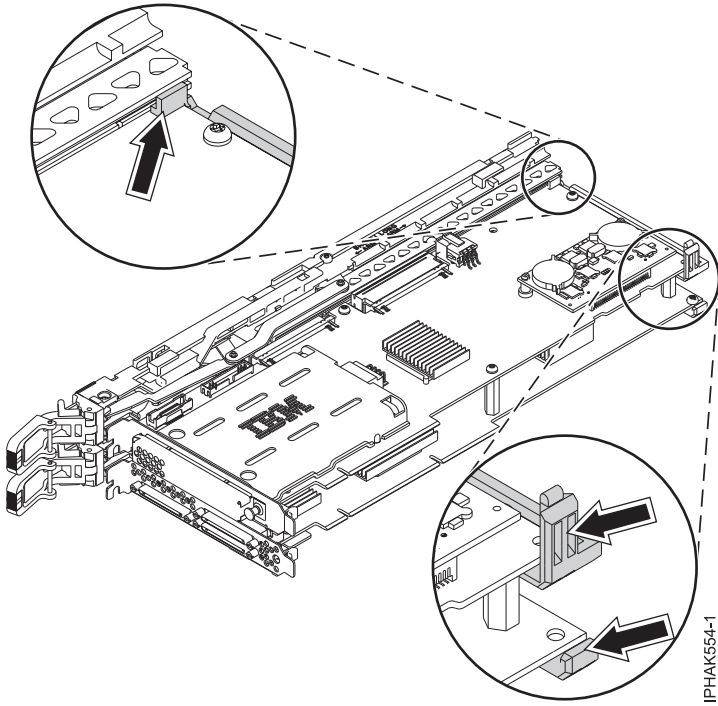

Figure 56. Placing the double-wide adapter in the cassette assembly
- b. Attach the notches of the rear arms of the cassette assembly at the rear end of the double-wide adapter. See Figure 56 on page 74. When you attach the upper, right part of the cassette assembly to the adapter, you might need to adjust the slider to set it in place.